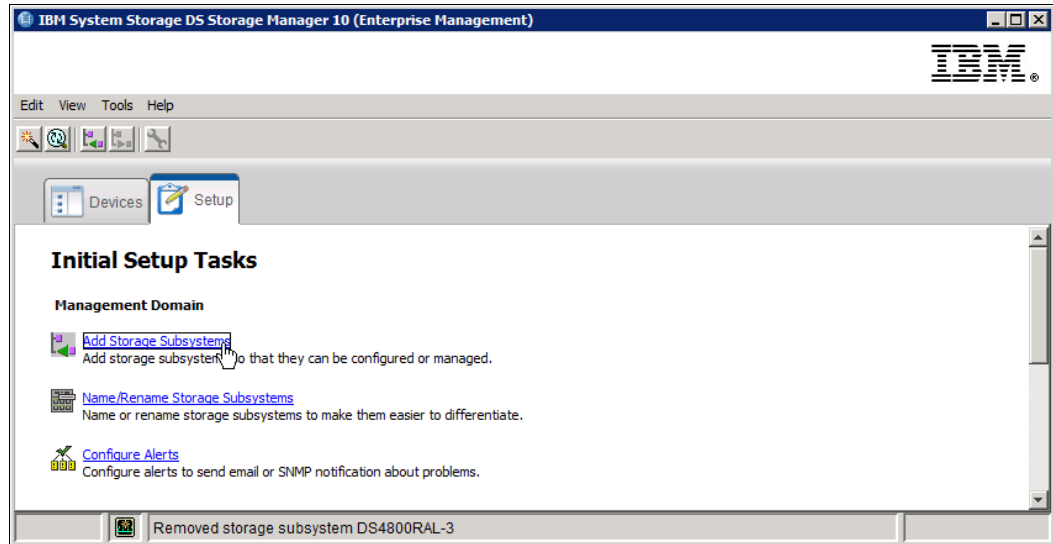

Figure 4-22 Add Storage Subsystem
1. From the Setup tab of the DS Storage Manager Enterprise Management window, click **Add Storage Subsystem**, as shown in Figure 4-22.